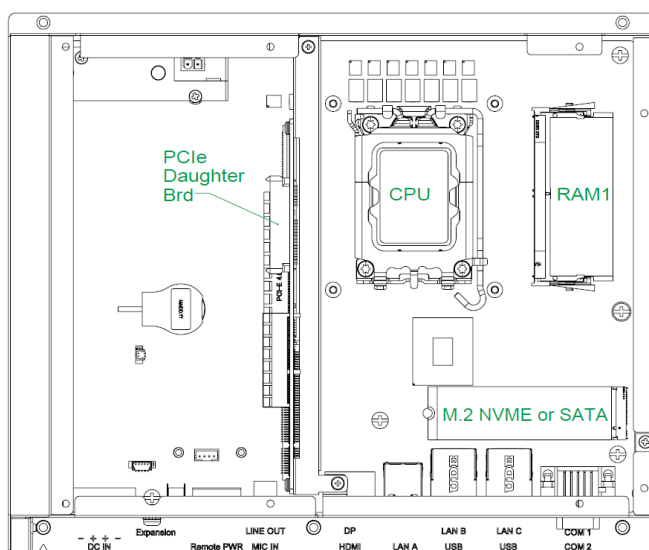

Figure 2.2 CPU, RAM1, M.2 Storage1 Location
1. Please follow Figure 2.2 to install CPU, RAM1 and M.2 Storage 1 for TPC-B620. Detach the purchased TPC-B620H-DIOA1/TPC-B620R-DIOA1 or TPC-B620-DGUA1 module, then install the PCIe daughter board securely.